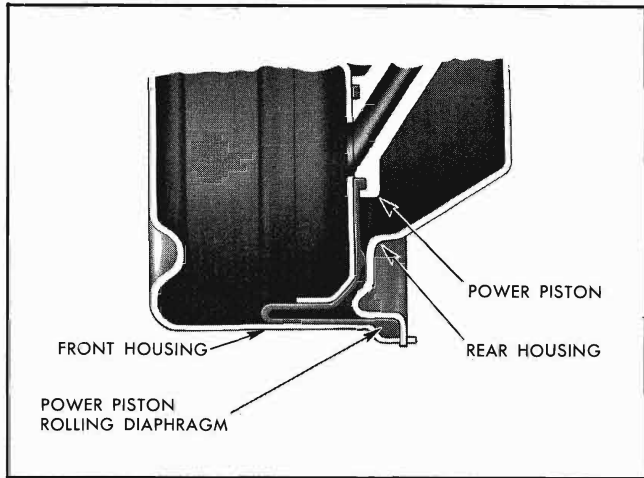

Fig. 5-M-22 Rolling Diaphragm Properly Installed
9. The outer bead of the rolling diaphragm will be properly seated as shown in Fig. 5-M-22 against the front housing while pressing the rear housing down squarely.
11. Rotate the rear housing (with a suitable wooden lever) clockwise to secure the rear housing to the front housing (Fig. 5-M-23). After the rear housing is rotated to the lock position the exhaust manifold assembly should be in line with the master cylinder filler cap.